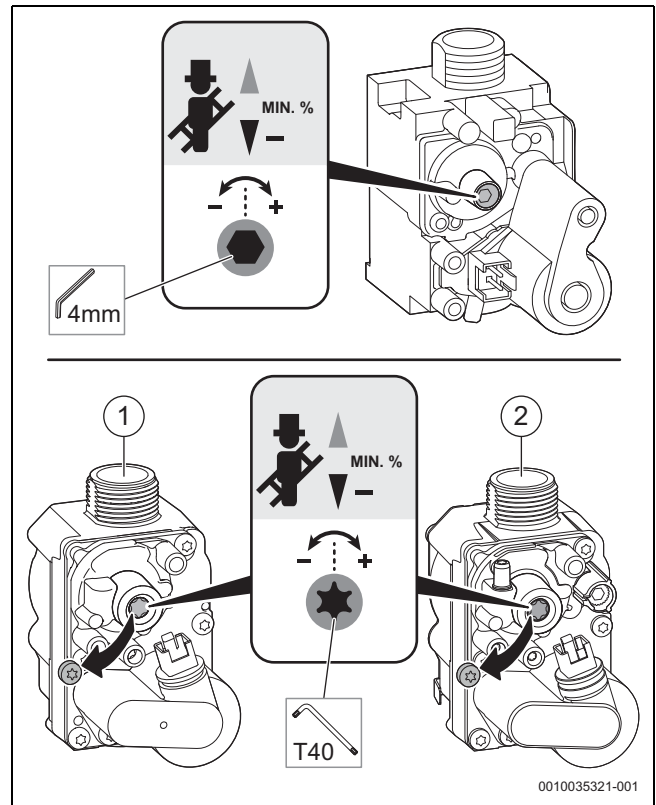

Fig. 82 Setting the CO2 content (above: SIT valve, below: Honeywell valves)
- ▶ Remove the seal from the adjusting screw of the gas valve (only gas valve is shown in the below Figure 82) and set the CO2 content for minimum rated output.